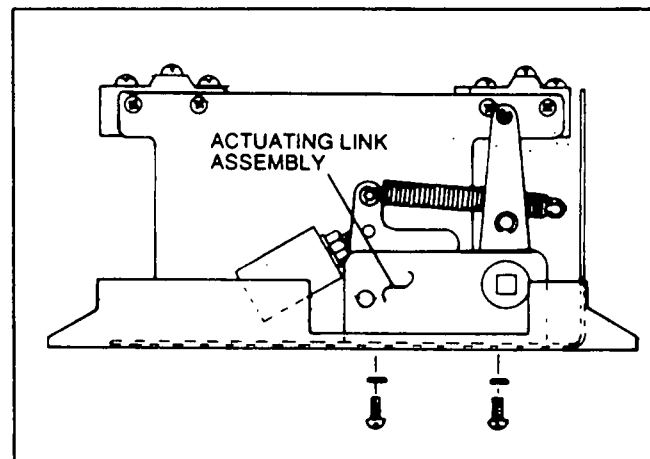

Figure 12. Actuating Link Assembly Screws
2. See Figure 12. Remove two (2) screws that retain the actuating link assembly to the transfer mechanism base.
3. You should be able to lift the actuating link assembly high enough to remove two (2) screws that retain limit switch LS2 to its support. Remove the two screws.